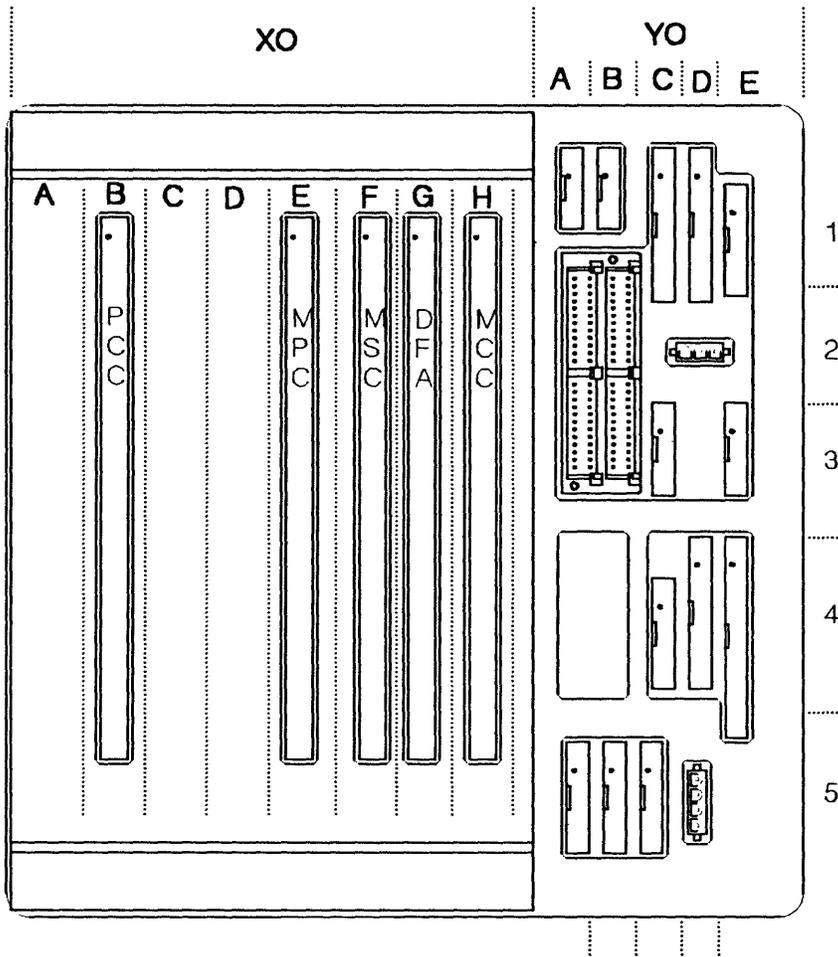

Figure 4-119. MOSS Board Cards and Cables
Refer to Figure 4-119 and do the following:
4. Reconnect the cables and the cassettes in their correct location according to their labels. Refer to Figure 4-119 on page 4-87.